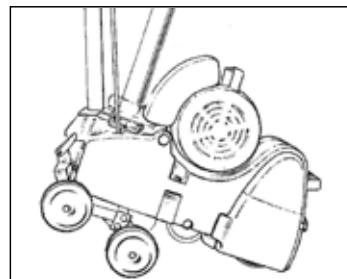

Figure 3
1. With the dolly mechanism in place as described above, tip the machine by lifting up on the operators handle to raise the rear of the machine off the floor/ground until the dolly swings under the machine. (See Figure 3)